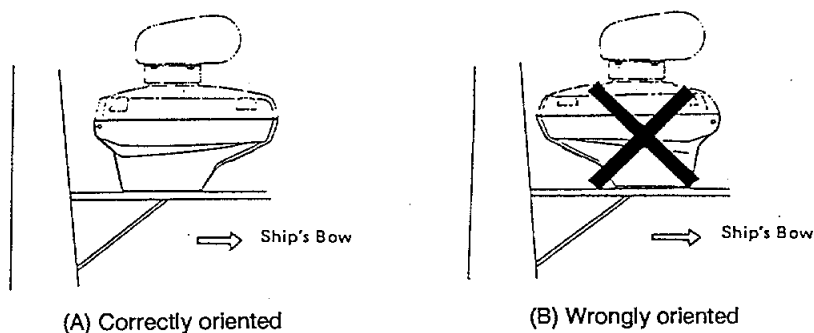

Figure 6-1 Mounting of Scanner Unit
3. Place the scanner housing on the chosen position and orient it as shown in Figure 6-1(a).